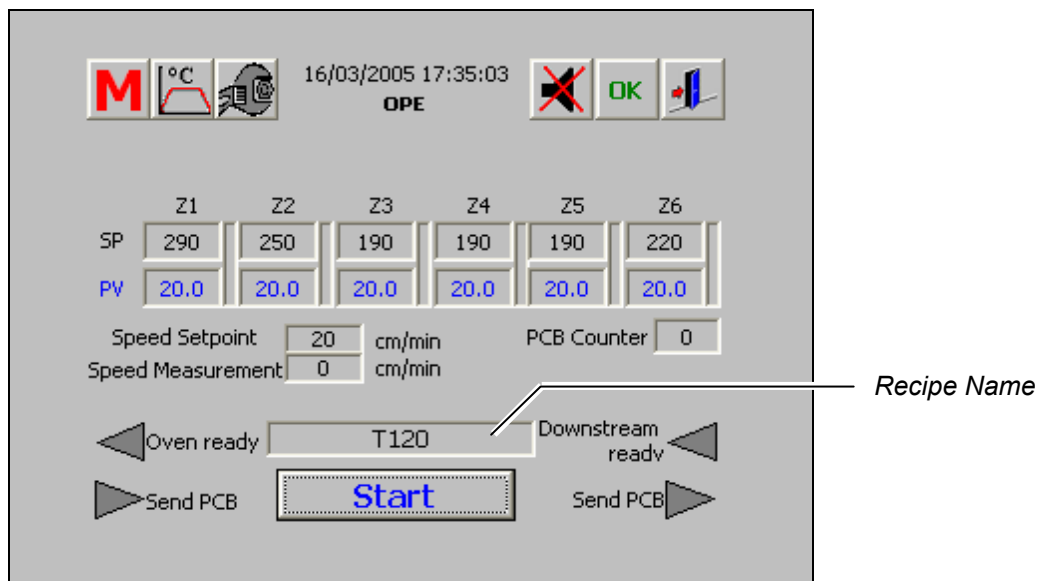

Figure 6-9 Main Menu - Start
5. On the Main Menu, check that the correct Recipe has been downloaded to the PLC (Figure 6-9).